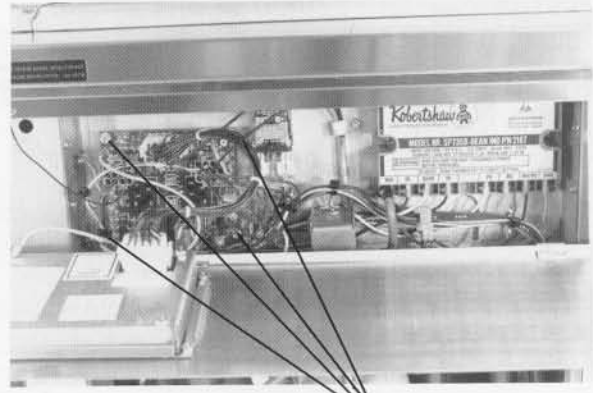

Figure 15
6. Using nut driver, remove 4 nuts at corners of board (Fig. 15).